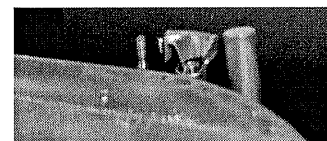

Figure 5
1. Replace the burner cover. Verify proper positioning of the pilot assembly to the burner tube. Make sure the burner tube is properly positioned over the orifice. Refer to figures 5 & 6.